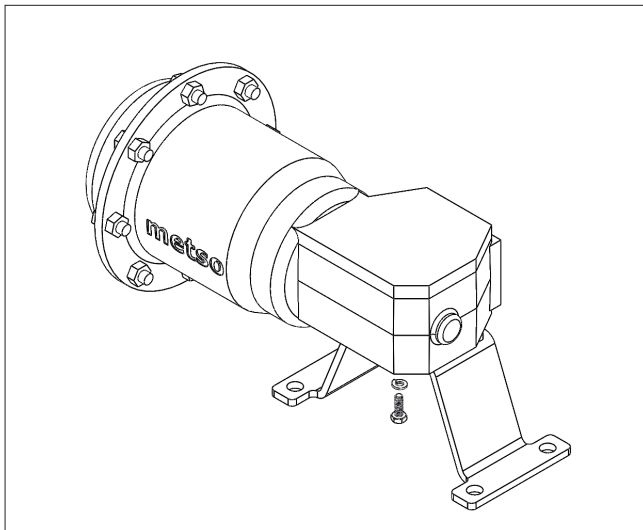

Figure 12.
2. Assemble bracket to actuator as shown in **(Figure 12)**. Tighten to torque listed in **(Table 5)**.